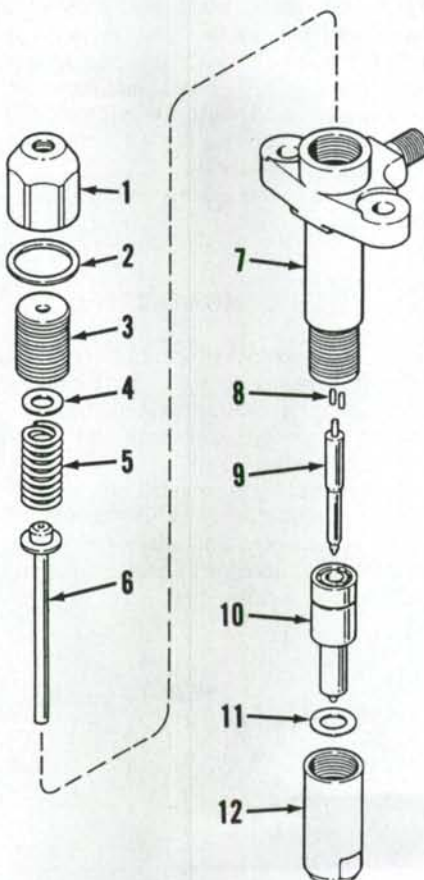

Fig. 117—Exploded view of typical fuel injector used on all models.
To adjust nozzle opening pressure, remove top cap nut (1—Fig. 117) and turn adjusting screw (3) until specified opening pressure is obtained.
To disassemble injector, clamp body in holding fixture or soft jawed vise with only enough pressure to keep injector from slipping. Remove cap (1—Fig. 117) and washer (2). Some injectors have a locknut which is removed next. On all injectors, back off pressure adjusting screw (3) until all tension is removed from pressure spring (5). Remove nozzle retaining cap (12) and nozzle (10). Remove nozzle from retaining cap and needle (9) from nozzle. Place in approved cleaning solvent. Remove adjusting screw (3), using care not to lose washer (4). Remove spring (5) and spindle (6). Place in cleaning solvent.
Clean all parts using clean diesel fuel and install needle (9—Fig. 117) into nozzle (10). Needle should slide freely by its own weight to bottom of nozzle body. If needle sticks, reclean or renew nozzle valve assembly.